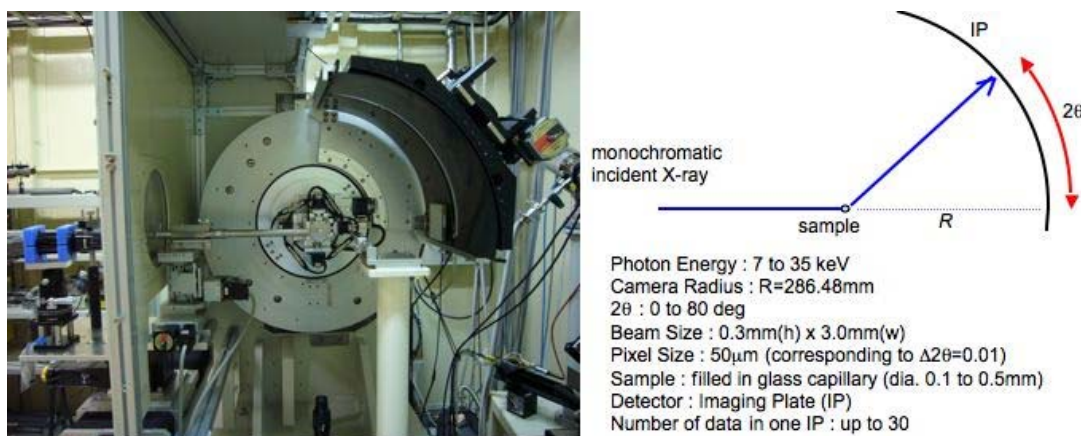

Fig. 2. The large Debye-Scherrer camera at BL19B2.
promote the industrial application of the synchrotron radiation. The beamline has three experimental hutches for several kinds of experiments, including X-ray imaging, X-ray diffraction, and small-angle X-ray scattering. X-ray powder diffraction experiments are performed using the large Debye-Scherrer camera (Fig. 2) at the second experimental hutch. This camera was designed for accurate structure analysis. The basic specification of the large Debye-Scherrer camera installed at BL19B2 is the same as the one at BL02B2 of SPring-8. Imaging plates (IP) are used as 2-dimensional detectors. Users can change the sample temperature in the range of 90–1000 K by using a heater and a cryostat. These apparatuses utilize flowing nitrogen gas to control the sample temperature.